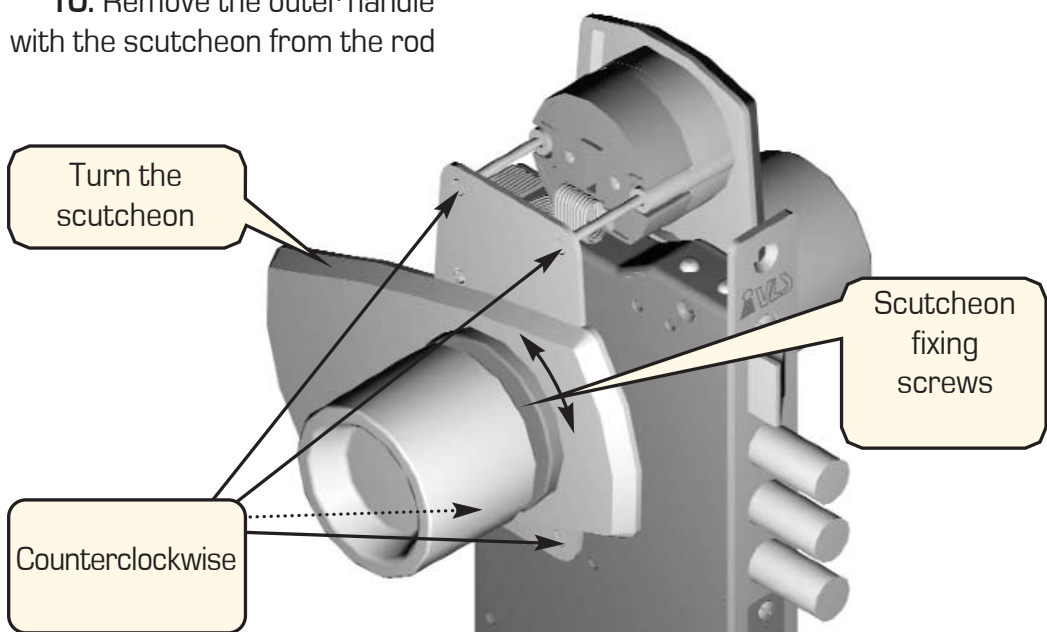

Figure 12 – Removal of the inner handle with scutcheon
5. Turn the nut on the scutcheon on the inner side of the door counterclockwise up to the stop (fig. 12), while holding the outer lock handle.